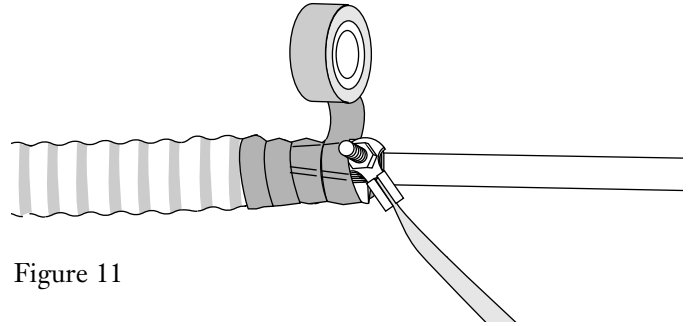

Figure 11
- d. Cover the grounding clamp and split portion of the sheath with vinyl tape (Figure 11).